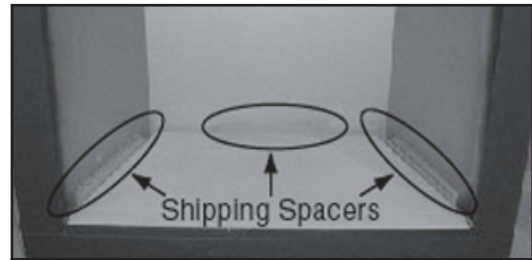
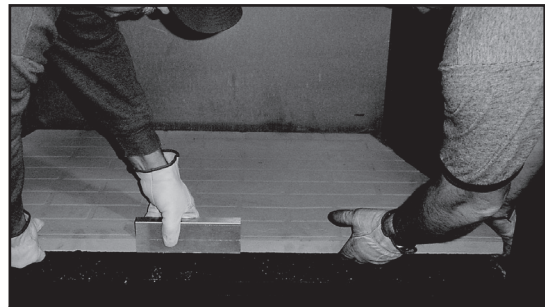

Figure 3.9 Shipping Spacers
Figure 3.10 Lifting Out Hearth Stone
- Remove hearth stone by removing three corrugated shipping spacers (Figure 3.9). Lift hearth stone out of fireplace. See Figure 3.10.